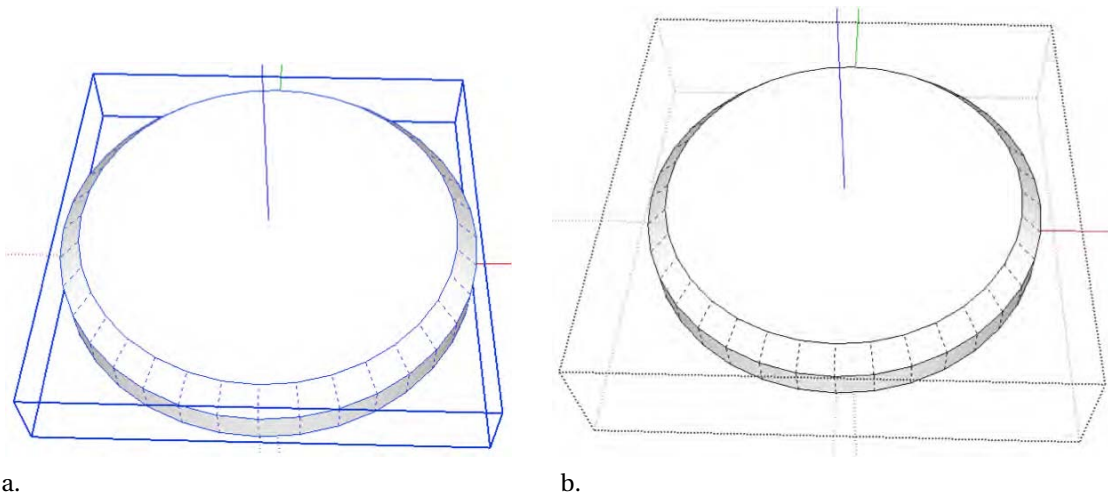

Figure 6–22. Grouped model and model ready for editing within a group
Now when you select the model, it will be surrounded by a blue box (Figure 6–22a). To edit the model, right-click the model, and select Edit Group, or double-click the model. In edit mode, the model will be surrounded by a dashed box (Figure 6–22b).
3. Using the Line tool, draw a 3mm line out from one end of the model and 10mm out on both sides (Figure 6–23a).